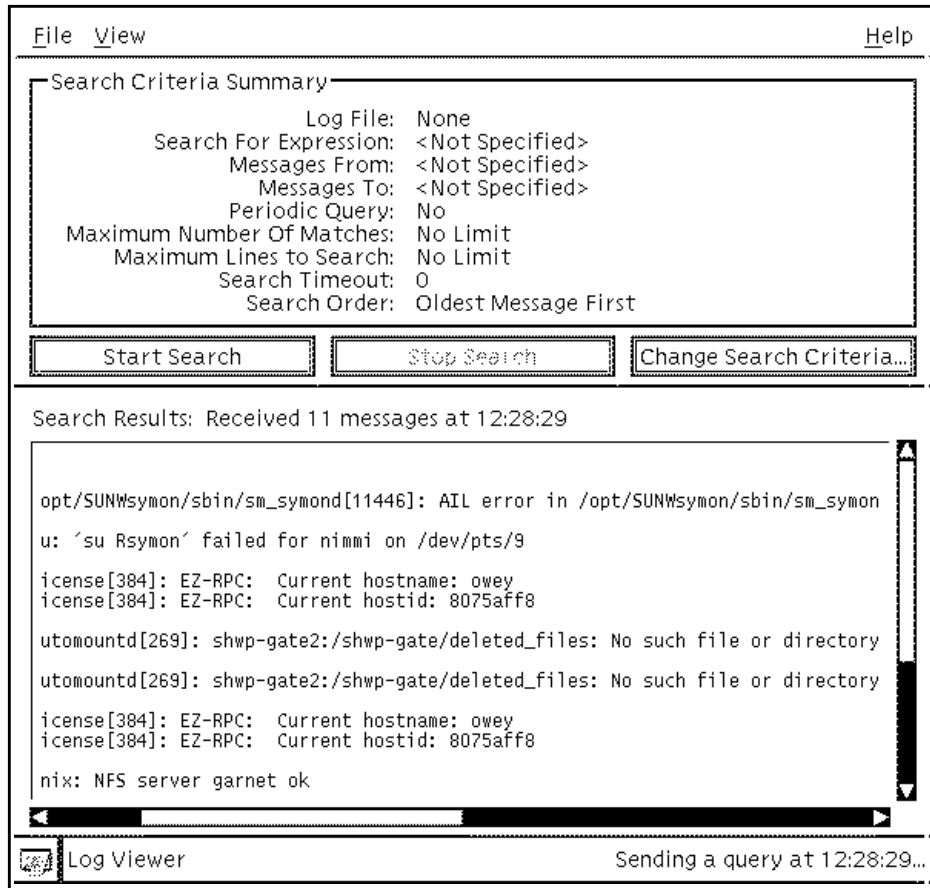

FIGURE 3-22 Log File Viewer Window
- To display the Log Viewer console, open the Log Viewer console as shown in FIGURE 3-22.**
The Search Results window is empty until you specify the search criteria in the Search for Expression entry (see FIGURE 3-22) and initiate the search. You can specify your own Search Criteria, retrieve and use a stored Search Criteria, or retrieve and modify a stored Search Criteria. Log entries retrieved by a search include the items listed in TABLE 3-7.
- **To initiate a search, select the Start Search button from the Log File Viewer window (FIGURE 3-22).**
1. **Select the Change Search Criteria button in the Log File Viewer window (FIGURE 3-22).**